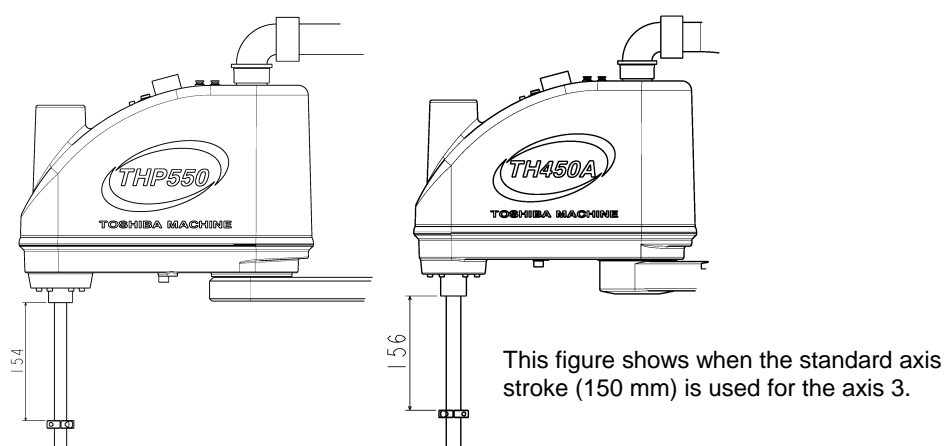

Fig. 4.2 Dimension of axis 3 home point
- 1) Home point match-marks are provided for the axes 1, 2 and 4. When only the multi-turn data of these axes has been cleared, move the robot to each home point match-mark. For the axis 3, move it to the position shown in Fig. 4.2 above.
- 5) Set the cursor to an axis whose multi-turn data is to be reset to zero (0), and press the [F3] function key corresponding to the [RESET] menu.